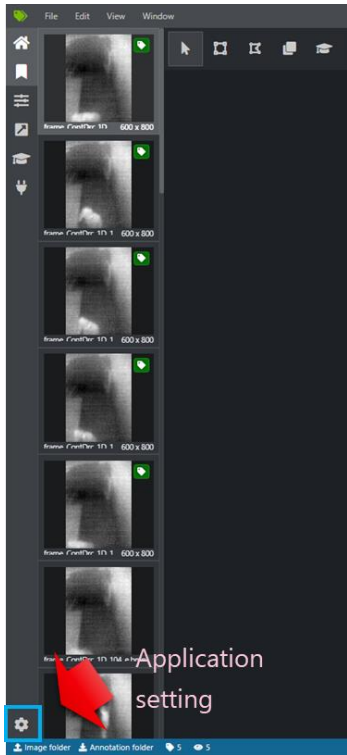

Fig. 4.14 VoTT working screen
- (a) First, obtain the security token key. Click on the Application Settings button in the lower left corner of Votto's work screen as shown in Figure 4.14.